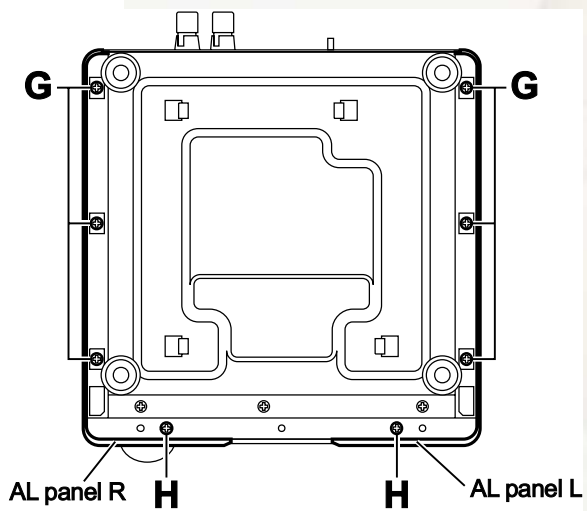

Fig.6
- (7) Remove the six screws **G** and two screws **H** attaching the AL panel L and AL panel R. (See Fig.6.)